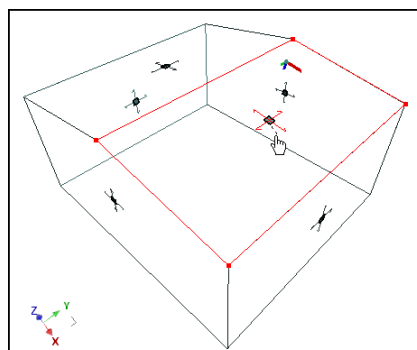

Figure 116: Selecting a windwall in the “Axes with section” rendering mode
1. Select one of the top windwalls by clicking on the load distribution symbol (Figure 116).